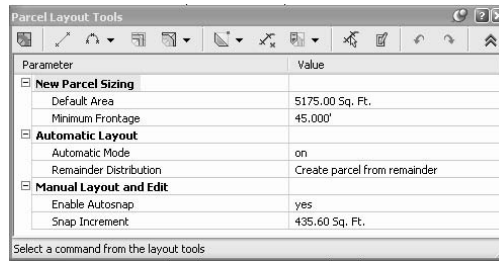

Figure 6.10
7. Use the Parcel Sizing tools pull-down list to choose the Slide Angle Create tool, as shown in Figure 6.10. The Create Parcels - Layout dialog will appear.